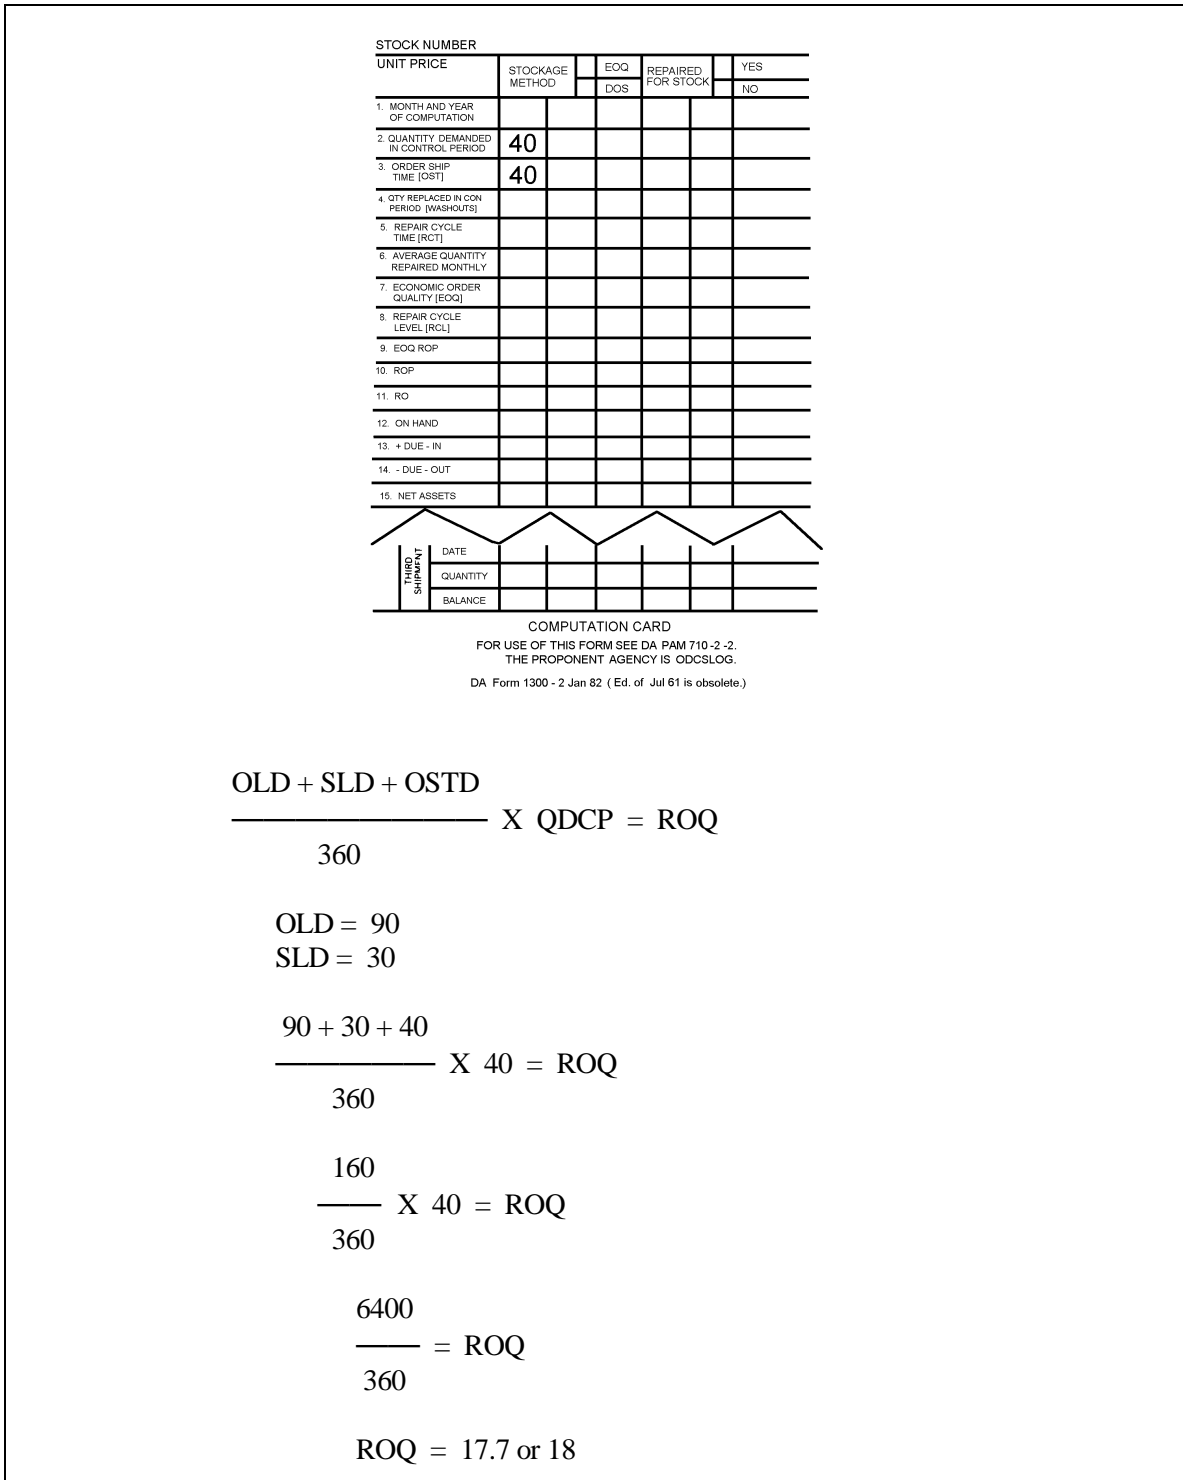
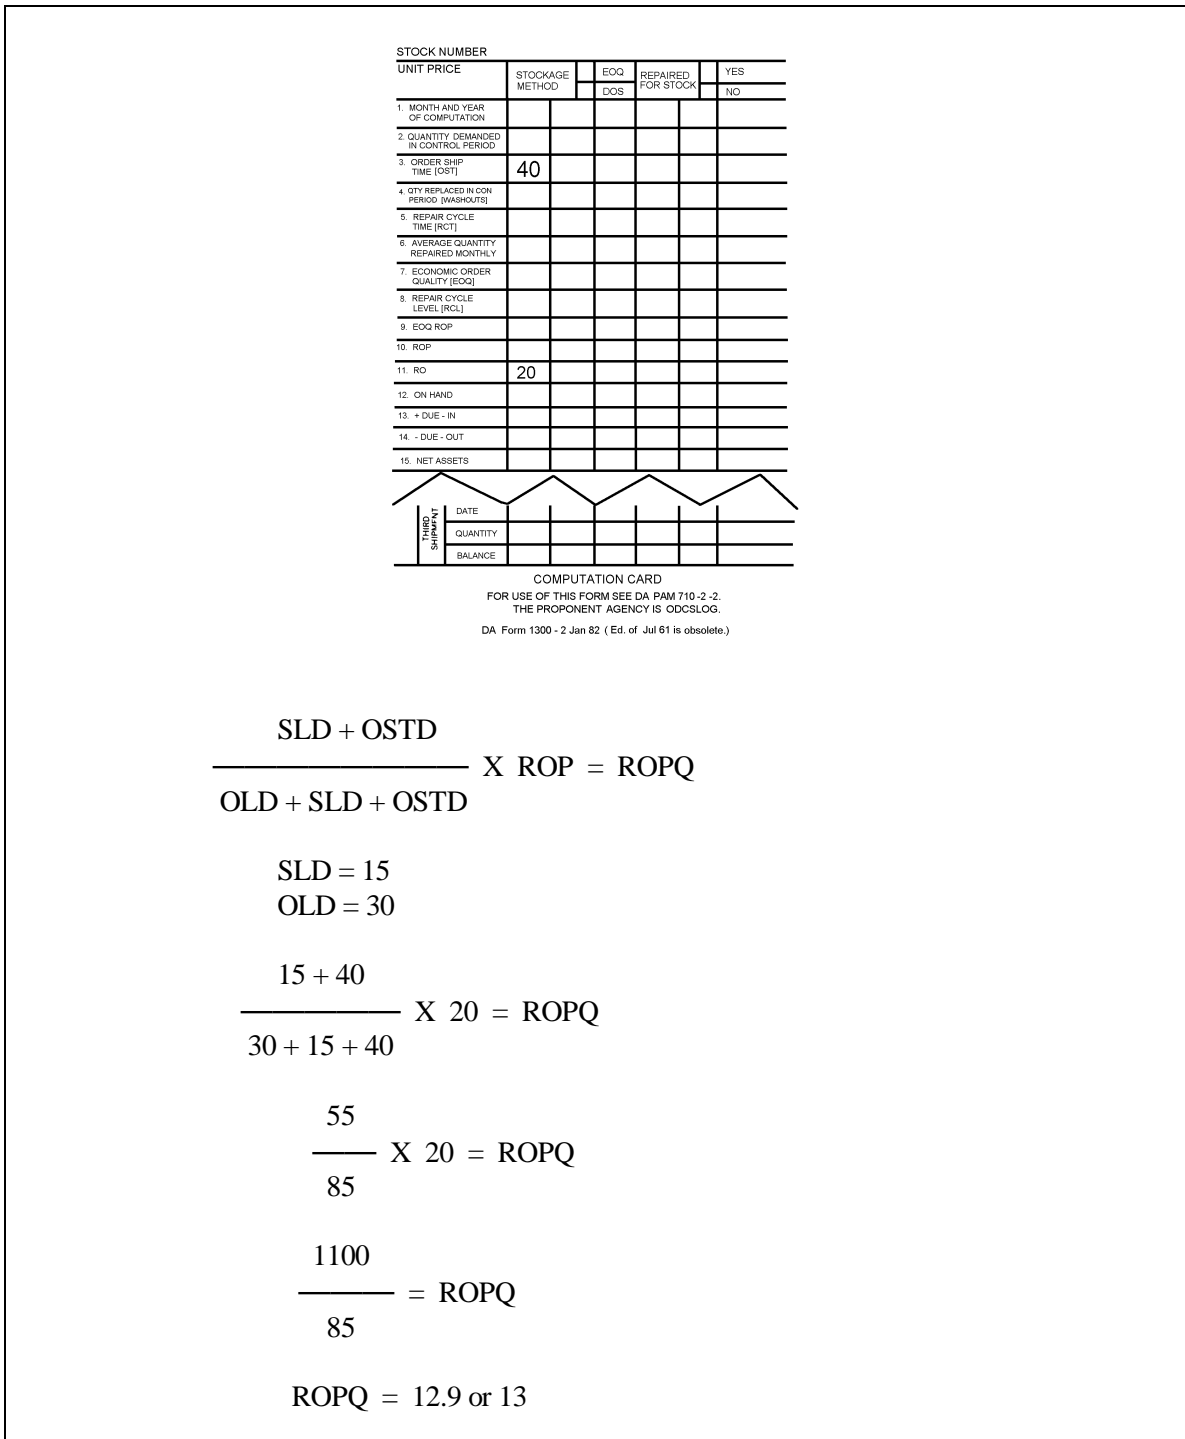

Figure 3-3
Figure 3-4
5. Compute the requisitioning objective quantity (RO). (See Figure 3-3.) P F
6. Enter the requisitioning objective quantity (RO). P F
7. Compute the reorder point quantity (ROP). (See Figure 3-4.) P F